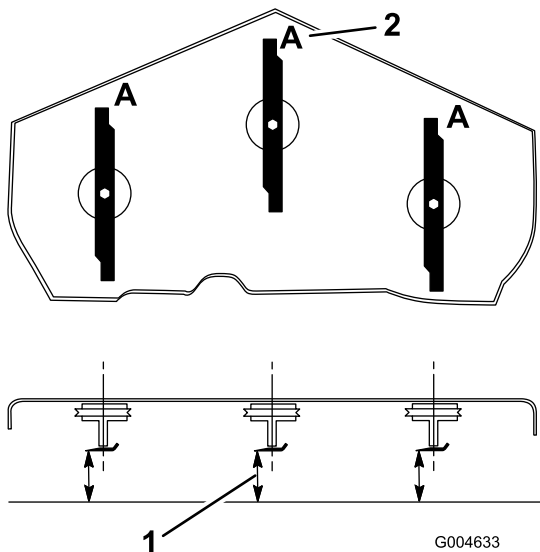

Figure 94
3. Rotate the blades until the ends face forward and backward (Figure 94).
Note: Measure from a level surface to the cutting edge, position A, of the blades (Figure 94). Note this dimension.